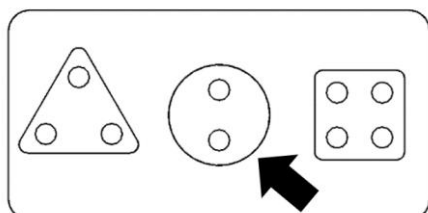

Figure 6
b. Tick which hand tool would be used to cut the outline of the game shape marked with an arrow in Figure 6. (1)